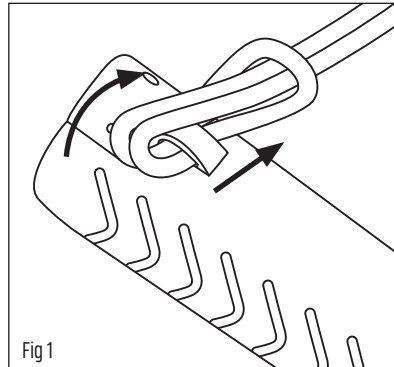

Fig 1
1. ATTACHING LANYARD - Insert the lanyard through the end opening of the LifeLite™ and loop through the opening and pull tight. (Fig 1)